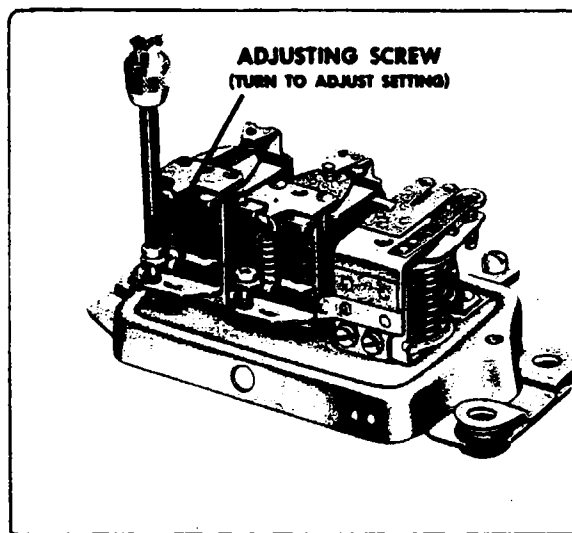

Figure 11-11. Adjusting Voltage Regulator Setting
(h) To adjust voltage setting, turn adjusting screw. (Refer to Figure 11-11.) Turn clockwise to increase setting and counterclockwise to decrease setting.
- (e) Adjust in same manner as described for voltage regulator. (Refer to Figure 11-11.)
- (e) Adjust in same manner as described for the voltage regulator. (Refer to Figure 11-11.)